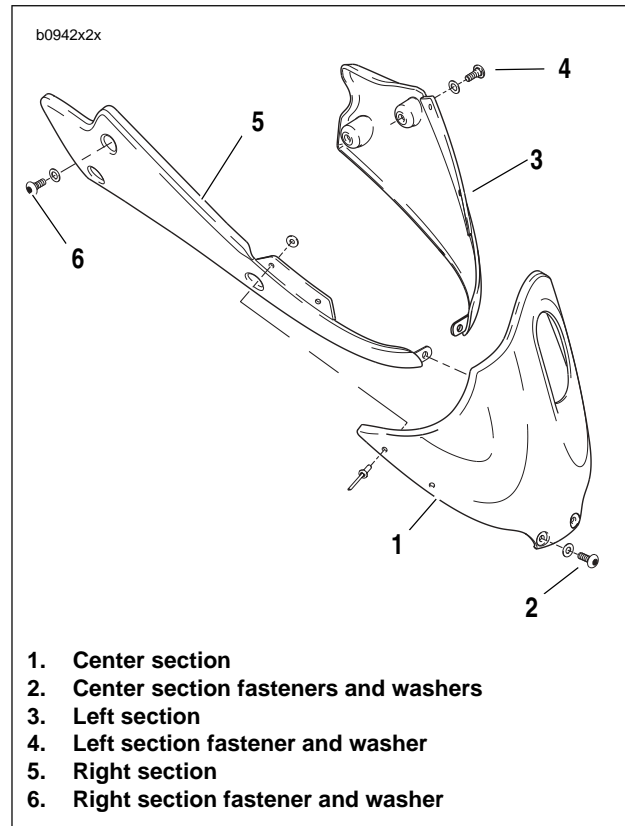

Figure 2-106. Chin Fairing Assembly
3. See Figure 2-106. Remove center section fasteners and washers (2).
4. Remove left section fasteners and washers (4) and remove left section (3).
6. Remove right section fasteners and washers (6) and remove right section (5).
1. See Figure 2-106. Position right section (5) and install with right section fasteners and washers (6).
2. Position left section (3) and install with left section fasteners and washers (4).
4. Position center section (1) and install with center section fasteners and washers (2). Use LOCTITE 272 on all fasteners tightening to 36-48 **in-lbs** (4-5 Nm).